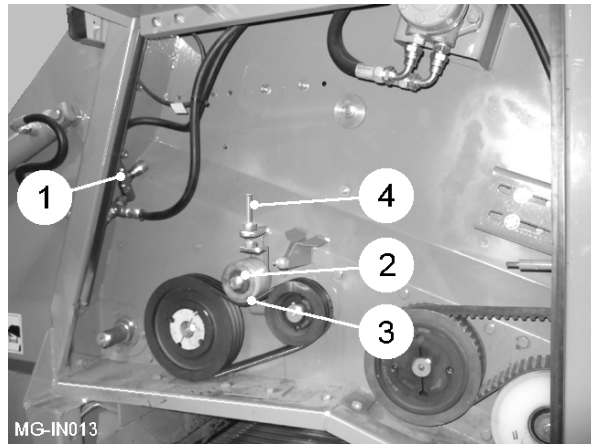

Fig 17
To set the boulder box 'V'belt tension, loosen the mounting bolts (item 2, fig 17) and adjust the tension rollers (item 3, fig 17) using the adjusters (item 4, fig 17). Set the belts tight enough to give a positive drive without undue stretching.